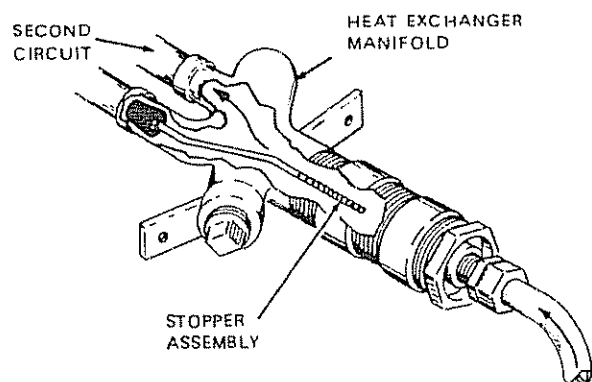

FIGURE 20
14. Transfer the stopper in the heat exchanger manifold passage, fig. 20, and reinstall pump supply hose assembly.